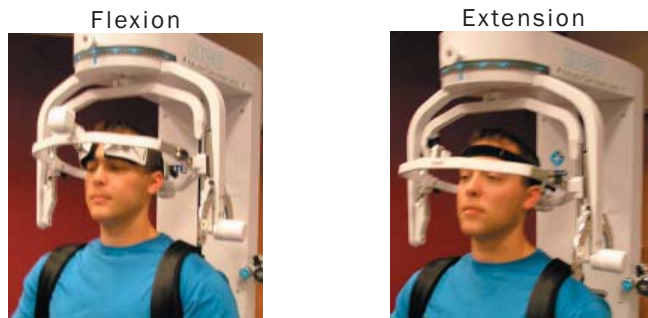

Figure 6-13. Final Set-ups for ROM Flexion & Extension
Step 13. Remove the range-of-motion stop pin before performing the test (Figure 6-13).